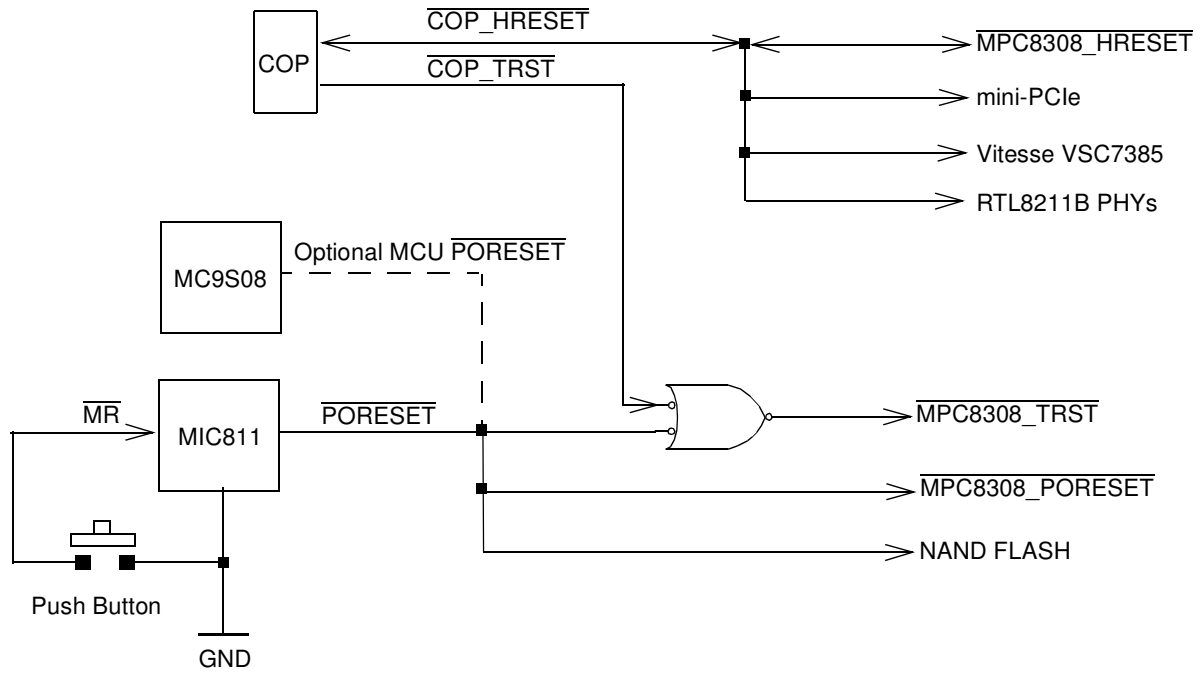

Figure 3. Reset Circuitry of the MPC8308
The MPC8308_RDB reset module generates a single reset to the MPC8308 and other peripherals on the board. The reset unit provides power-on reset, hard reset, and soft reset signals in compliance with the MPC8308 hardware specification. Figure 3 shows the reset circuitry. Notice the following:
- COP/JTAG port reset provides convenient hard-reset capability for a COP/JTAG controller. The $\overline{\text{HRESET}}$ line is available at the COP/JTAG port connector. The COP/JTAG controller can directly generate the hard-reset signal by asserting this line low. The arrangement shown in Figure 3 allows the COP to independently assert $\overline{\text{HRESET}}$ or $\overline{\text{TRST}}$, while ensuring that the MPC8308 can drive $\overline{\text{HRESET}}$ as well.